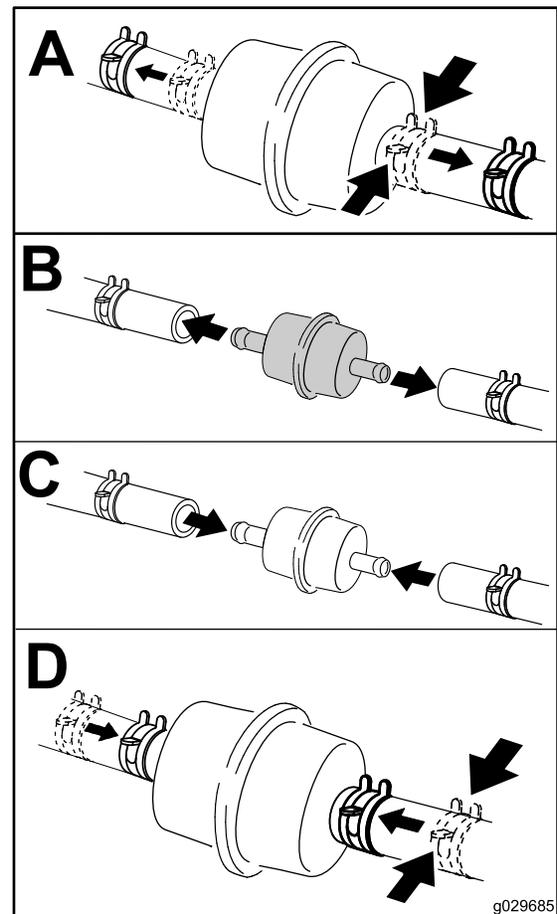

Figure 42
5. Replace the fuel filter (Figure 42).